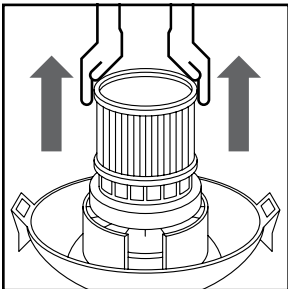

FIGURE 14
19. Slide the cartridge filter off the lid cage. **(FIGURE 14)**